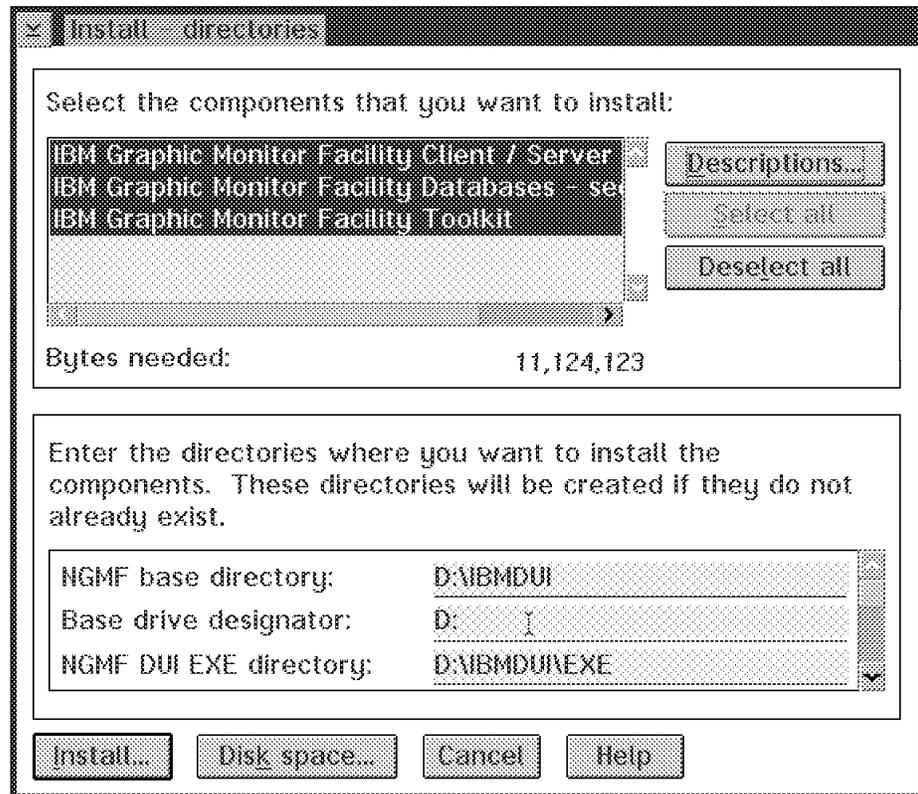

Figure 164. Install - Directories Panel
- On the next panel (Figure 164 on page 234) click on **Select all**.
- You get back to panel Figure 164 and select **Install**.